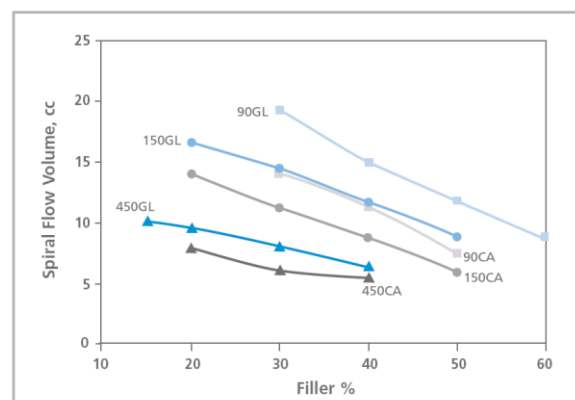

Figure 19
**Figure 19** is an example of PEEK™ 90G selected due to its superior ductility, dimensional stability and thermal aging. Note the wall cross sections were less than 0.2 mm (.008 in). The device requirements called for the drive mechanism to spin at over 5,000 rpm continuously for over 2,000